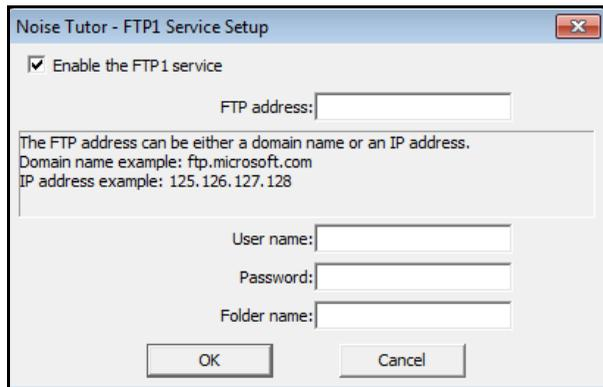

FIGURE 3-20 FTP Service Set-up
Step 1 On the **Setup** menu, click **Data File** and then click **FTP 1...** This launches the **FTP 1 Service Setup** dialog box, as shown in. FIGURE 3-20